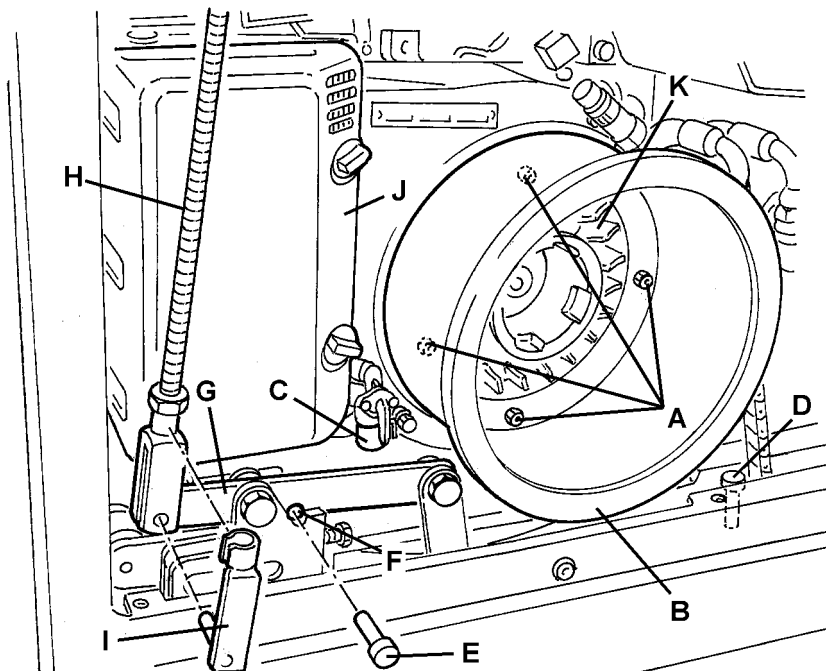

Figure 28
2. Engage the parking brake with the pedal (84) and the lever (76).
3. Turn the ignition key (69) to "0".
4. Remove the screws (48), then disengage the fasteners (49) to remove the left side bulkhead (47).
5. Remove the screws (A, Fig. 28), then remove the air deflector (B).
6. Clean the fuel filter (C, Fig. 28) as shown in the Petrol Engine Manual.
5. Remove the pin (E, Fig. 28) from its seat (D) and insert it in the hole (F) of the lever (G).
6. Lower the main broom with the lever (82) to release the rod (H, Fig. 28).
7. Disengage and remove the pin (I, Fig. 28), then disconnect the tie rod (H) from the lever (G).
8. Clean the engine air pre-filter and/or service the air filter element (J, Fig. 28), as shown in the Petrol Engine Manual.
5. Open the hood (23) and secure it with the support rod (55).
6. Remove the screws (45), then disengage the fasteners (46) to remove the engine guard (44).
7. Remove the screws (A, Fig. 28), then remove the air deflector (B).
8. Clean the engine cooling system (K, Fig. 28), as shown in the Petrol Engine Manual.